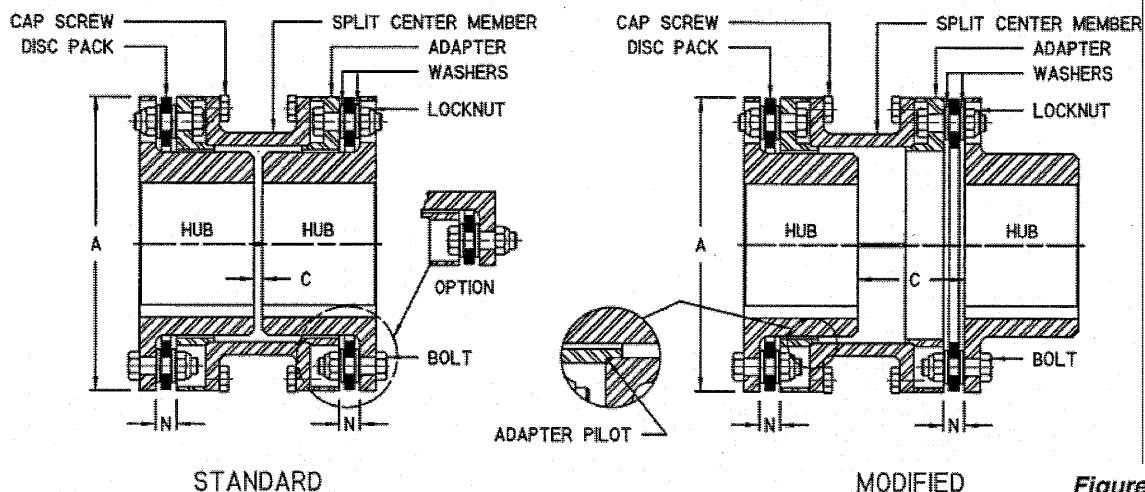
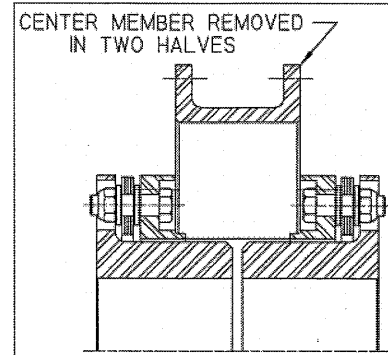

Figure 1
Figure 4
As a guide, maximum and minimum values for dimension "N" are given. These dimensions are suggested for initial installation. Additional capacity is available to compensate for thermal and structural movement. Maximum axial capacity values for these couplings are also given. See Table 1 and Figure 1.
NOTE: If there is not enough room axially behind the hub, bolts can be installed from the opposite direction. See Figure 1 option.
Add a washer to each bolt. **The beveled side of the washer should always be against the disc pack.** Now position the disc pack/adapter sub assembly onto the bolts. See Figure 1. Add the remaining beveled washers making sure all the parts pilot on the body ground part of the bolt. Now add the locknuts and slightly tighten the locknuts.
- E. Install the two split center member halves. Position them between the adapters making sure the bolt holes line up with the tapped holes in the adapter and the number stamped on each half of the flange O.D. are the same and line up with each other. If the coupling has been balanced, make sure the match marks all line up. See Figure 1 and Figure 4.
- F. Install all the cap screws, leaving them loose. Now hold each center member half, tight against the adapter pilot (see figure 1) and tighten the cap screws. A band or strap type clamp may be used to assist in this operation. **Pilot seating is important.** Using a torque wrench tighten all the cap screws to the values shown in table 1.
- A. Remove the cap screws and then remove the two center member halves from the assembly. See Figure 4.